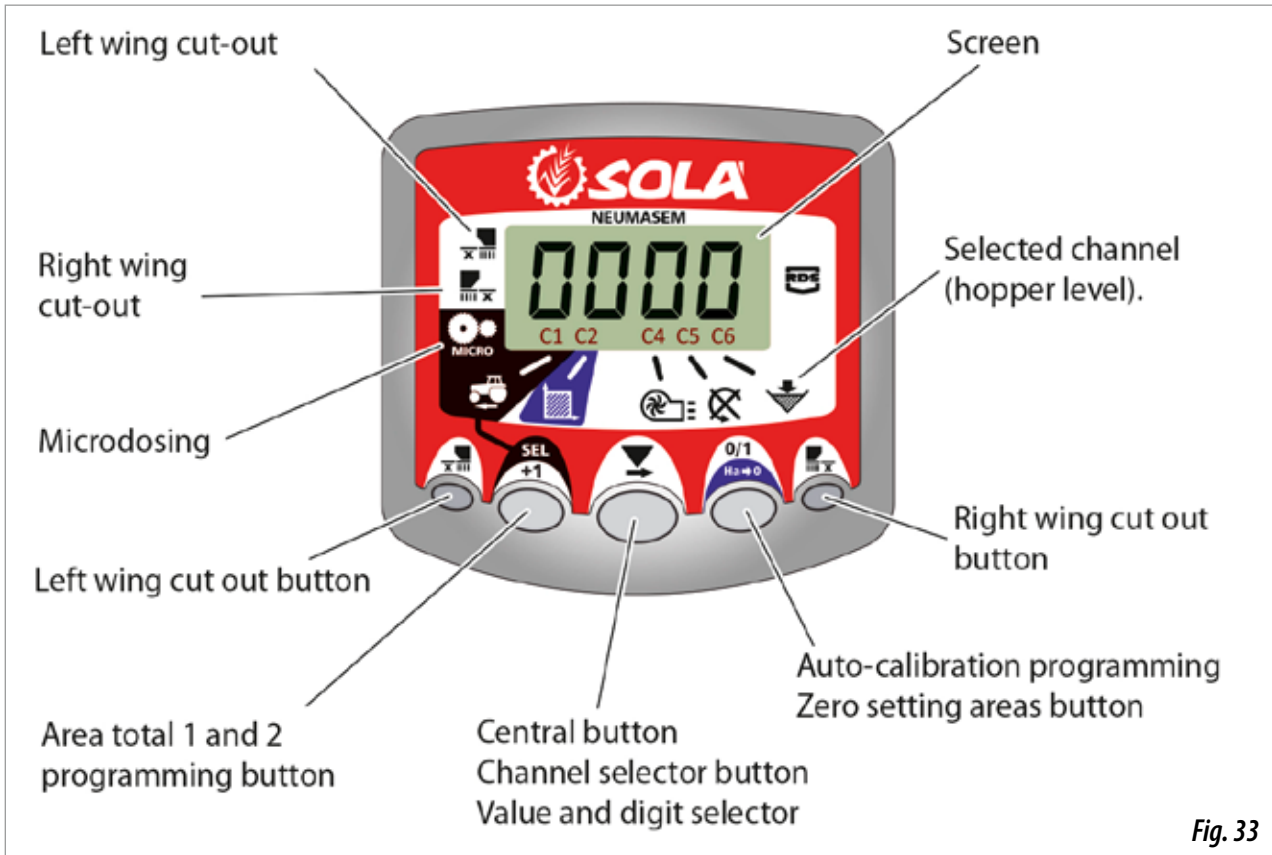

Fig. 33
- 1- Loosen the 2 nuts (1, fig. 33).
- 3- Tight the 2 nuts (1, fig. 33) after finishing these operations.